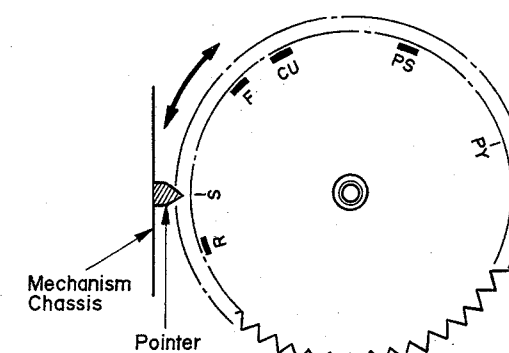

Fig. 5.1
(1) Offset Adjustment of Control Motor Driver
- (a) Refer to Figs. 5.1 and 5.2.